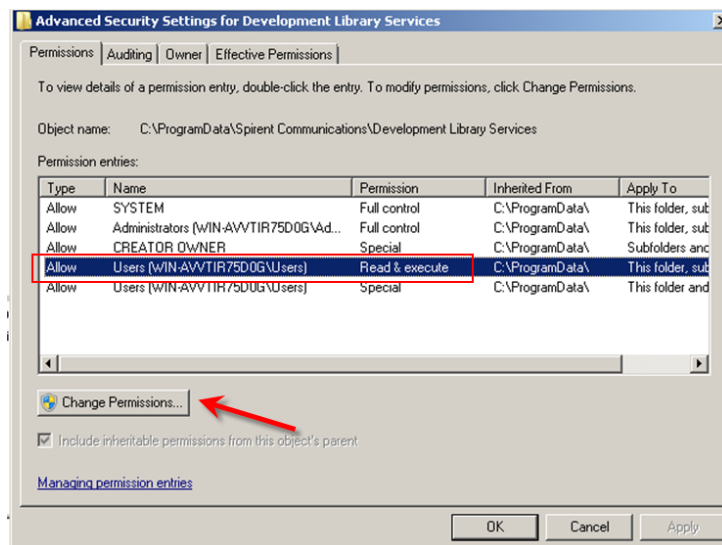

Figure 2-18: Changing the Read & Execute Permissions
5. Click the **Change Permissions** button, as shown in Figure 2-18.